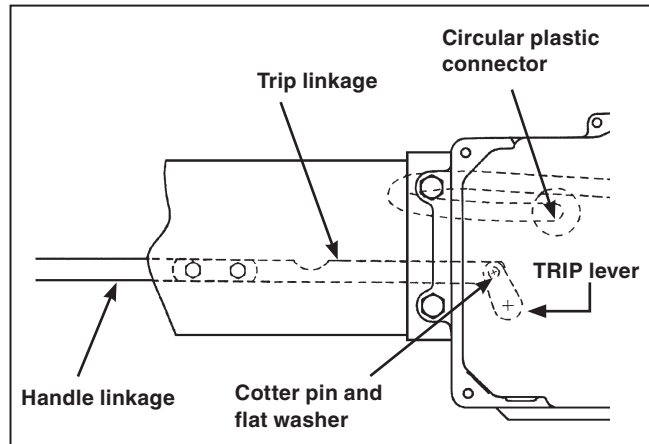

Figure 4. Disconnecting the trip linkage.
STEP 4. Remove and discard the cotter pin and flat washer that connects the trip linkage to the TRIP lever. Then, disconnect the circular plastic connector that connects the wiring harness to back of the mechanism by pinching the connector and pulling it off. See Figure 4.